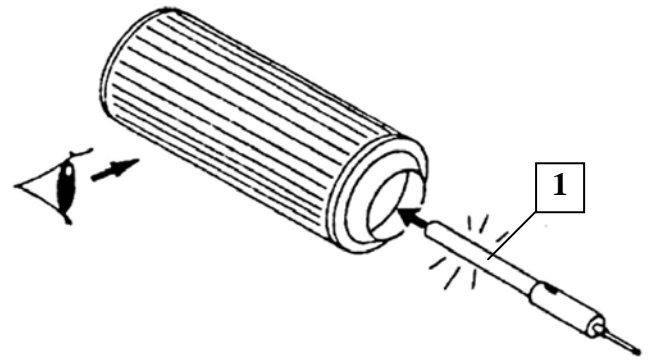

Fig. 7 Main filter element visual inspection
Check each fold of the paper bellows for cracks and holes using an appropriate inspection lamp (1) (refer to Fig. 7). In order that smaller damage is also detected, do not complete the inspection in direct sunlight but in a darkened room, for example.